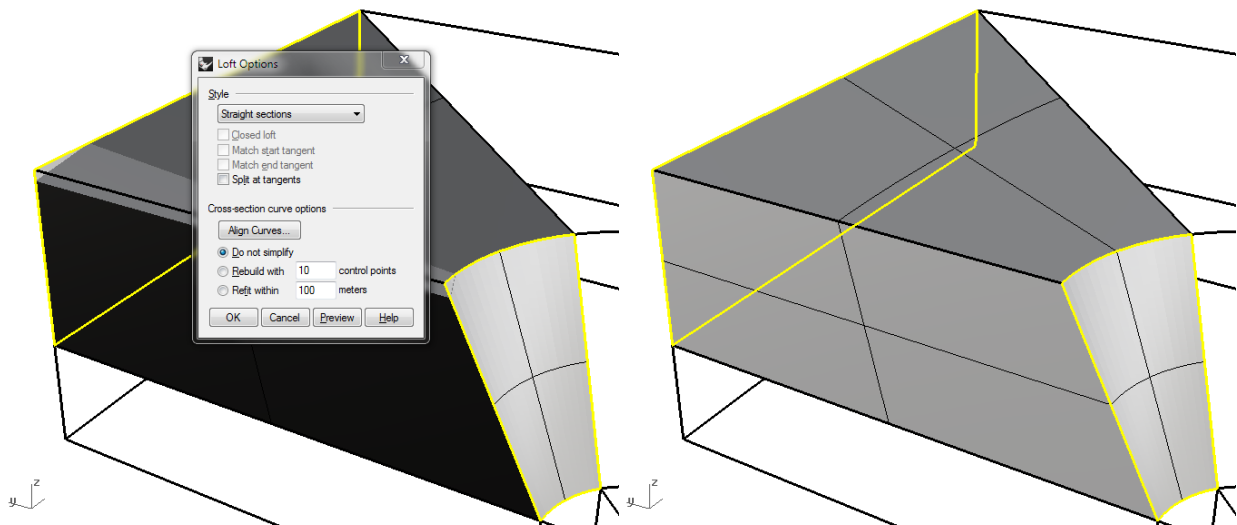

Figure 69: Completing the Loft operation
11. Press **<ENTER>** and the **Loft Options** dialog box opens. Make sure that **Straight sections** and **Do not simplify** are selected (Figure 69, left), and click on **OK** to complete the loft operation (Figure 69, right).